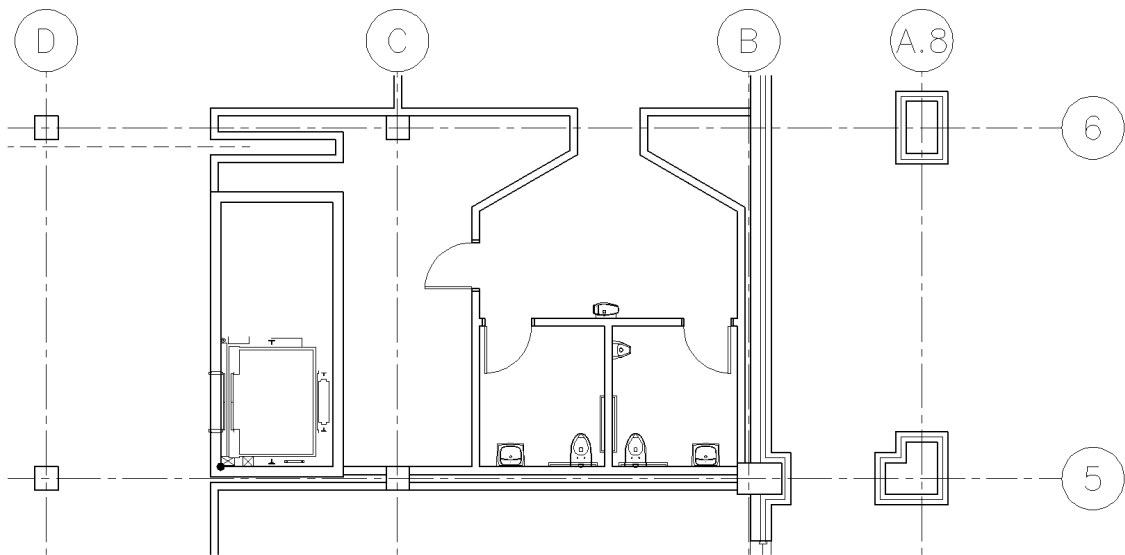

FIGURE 4-3.10 Elevator inserted into your floor plan (black dot in lower-left for reference only)
25. Select the same, relative, location as the insertion point (shown as a black dot in Figure 4-3.10).